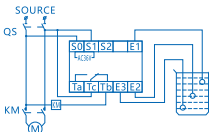
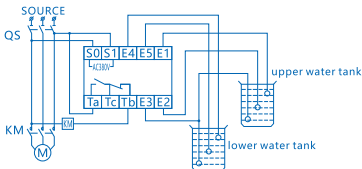

Figure 2 Wiring Diagram of
Figure 9 Wiring Diagram of NJYW1-BL1, NJYW1-BL2 AC380V Upper and Lower Water Level Control
3.2 Wiring diagram: see Figure 2~ Figure 9.